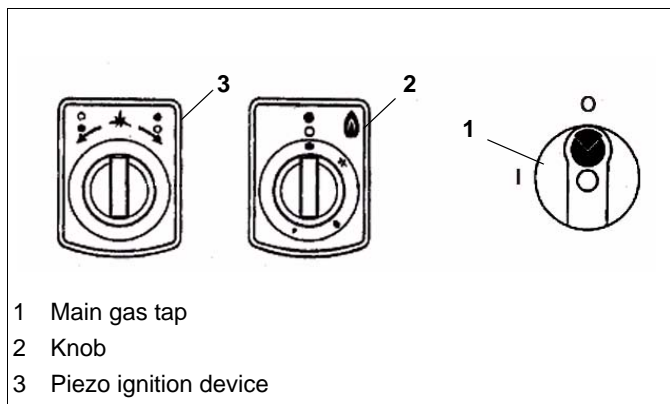

Fig.9 Control panel
- ⇒ Turn on the water supply tap (4/ Fig.9) until the trough is full.
The knob (2/ Fig.9) has four main settings:
- ⇒ Push the knob (2/ Fig.9) fully in.
- ⇒ Push the knob (2/ Fig.9) fully in and hold it there.
- ⇒ At the same time, ignite the gas escaping at the pilot burner with the piezo ignition device. The burner is ignited by turning the knob (3) clockwise or anti-clockwise.
- ⇒ Press the knob (2/ Fig.9) in lightly and turn it anti-clockwise from the pilot burner ignition position (★) to the highest setting (🔥).
- ⇒ Push the knob (2/ Fig.9) in fully and turn it anti-clockwise from the highest setting (🔥) towards the lowest setting (🔥). The flame thus becomes smaller and smaller. The main burner has the least output in the low setting (🔥).
- ⇒ To return from the low setting (🔥) to the high setting (🔥), push the knob (VB, HB / Fig.9) fully in and turn it clockwise.
- ⇒ Turn the switch (2/Fig.9) to the highest setting (🔥).
- ⇒ Set the appropriate cooking temperature with the switch (2/Fig.9), according to the quantity and quality of the food to be cooked.
- ⇒ Turn back the knob (2/Fig.9) clockwise from the high setting (🔥) to pilot burner ignition (★).
- ⇒ Press the knob (2/Fig.9) in lightly and turn it clockwise from pilot burner ignition to Off.
- ⇒ Switch off main burner and pilot burner (2/Fig.9).
- ⇒ Turn off the main gas tap (1 / Fig.9).